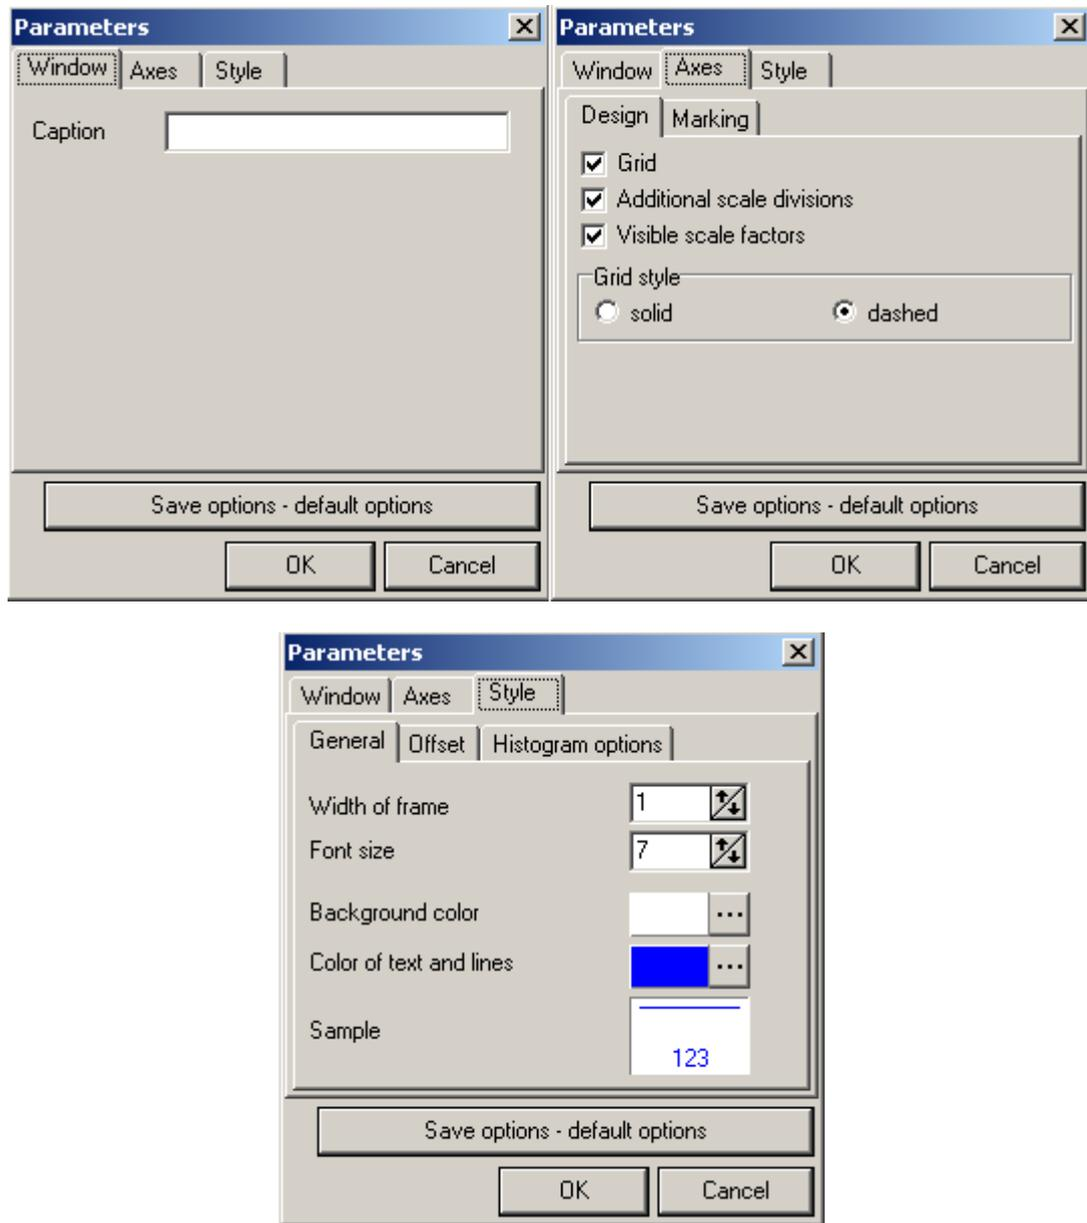

Figure 4.62. Histogram parameters window
- **Window parameters** - calls the *Histogram parameters* window (Figure 4.62).